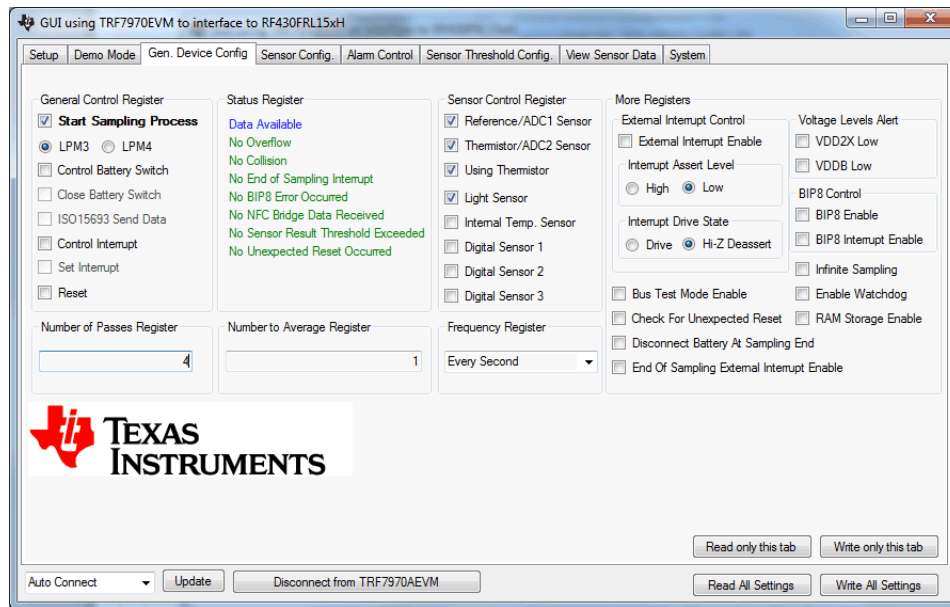

Figure 19. Custom General Device Configuration
12. Figure 19 shows the "Gen. Device Config" tab with these settings.